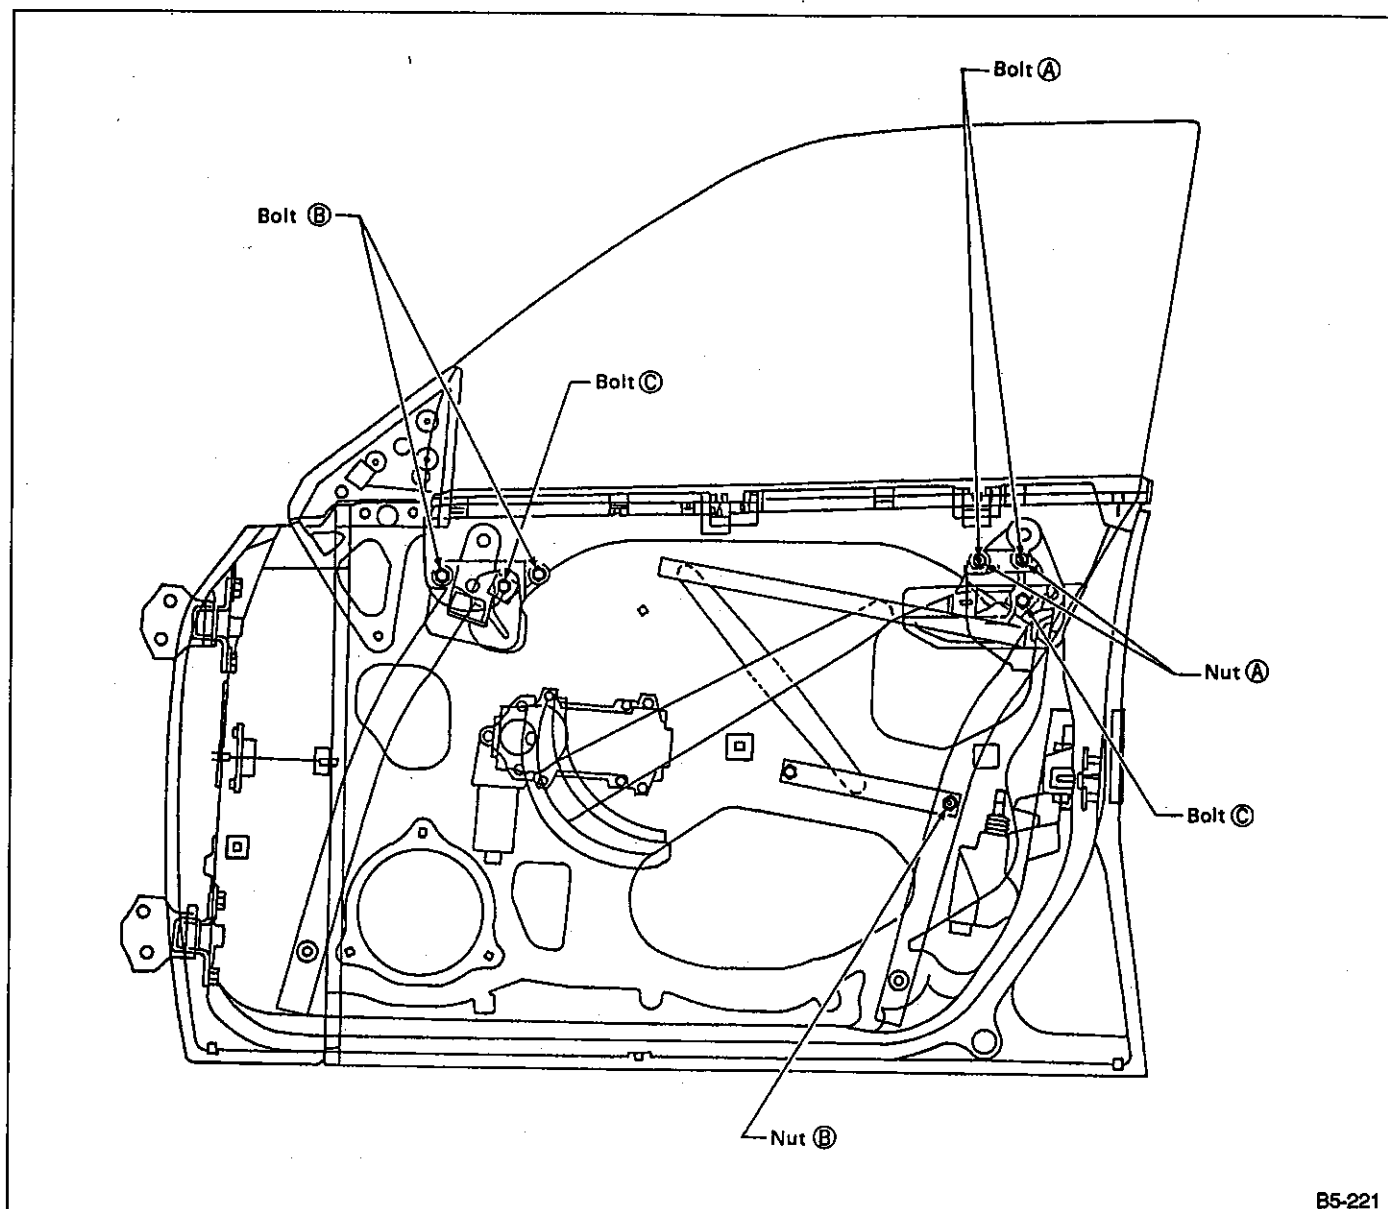

Fig. 68
- (3) If glass tilts to far rearward, loosen nut ⑥ in figure 68 and adjust glass to be parallel with center pillar.
- (3) Loosen nut ① in figure 68 and adjust glass to center pillar.
- (1) Loosen bolts ③ in figure 68.
- (2) Increase the upward travel of window glass up to the position where upper edge just touches weather-strip surface with door closed.